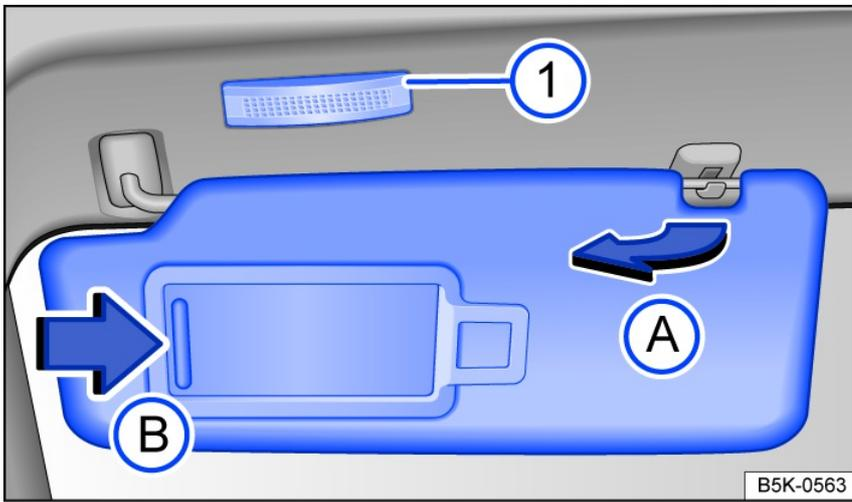

Fig. 105 In the front of the headliner: sun visor.
- Remove from the holder and tilt toward the door *fig. 105*.
When the sun visor is folded down, there is a vanity mirror located behind a cover. The lights *fig. 105* turn on when the cover *fig. 105* slides open.